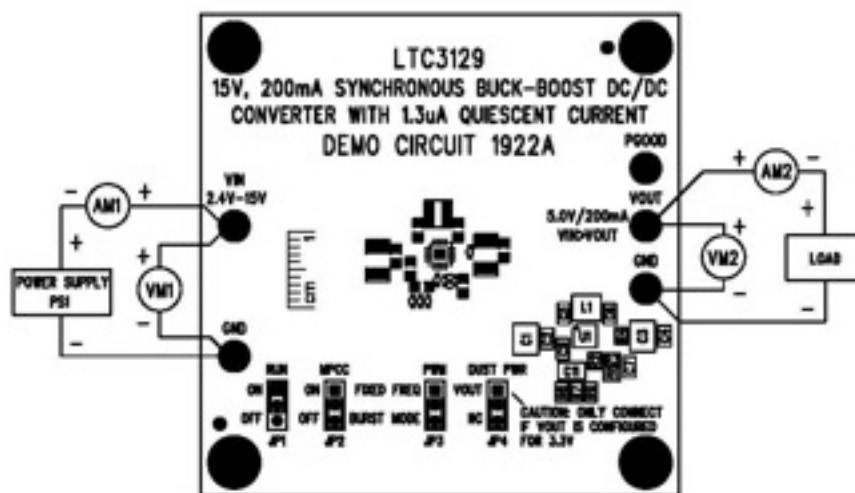

Figure 3. Proper Measurement Equipment Setup
Using short twisted pair leads for any power connections and with all loads and power supplies off, refer to Figure 3 for the proper measurement and equipment setup. The power supply (PS1) should not be connected to the circuit until told to do so in the procedure below.
2. With power OFF connect the power supply (PS1) as shown in Figure 3. If accurate current measurements are desired (for efficiency calculations for example) then connect an ammeter (AM1) in series with the supply as shown. The ammeter is not required however.
3. Connect a 50mA load to V_{OUT} as shown in Figure 3 (100 Ω for $V_{OUT} = 5V$). Connect an ammeter (AM2) if accurate current measurement or monitoring is desired.